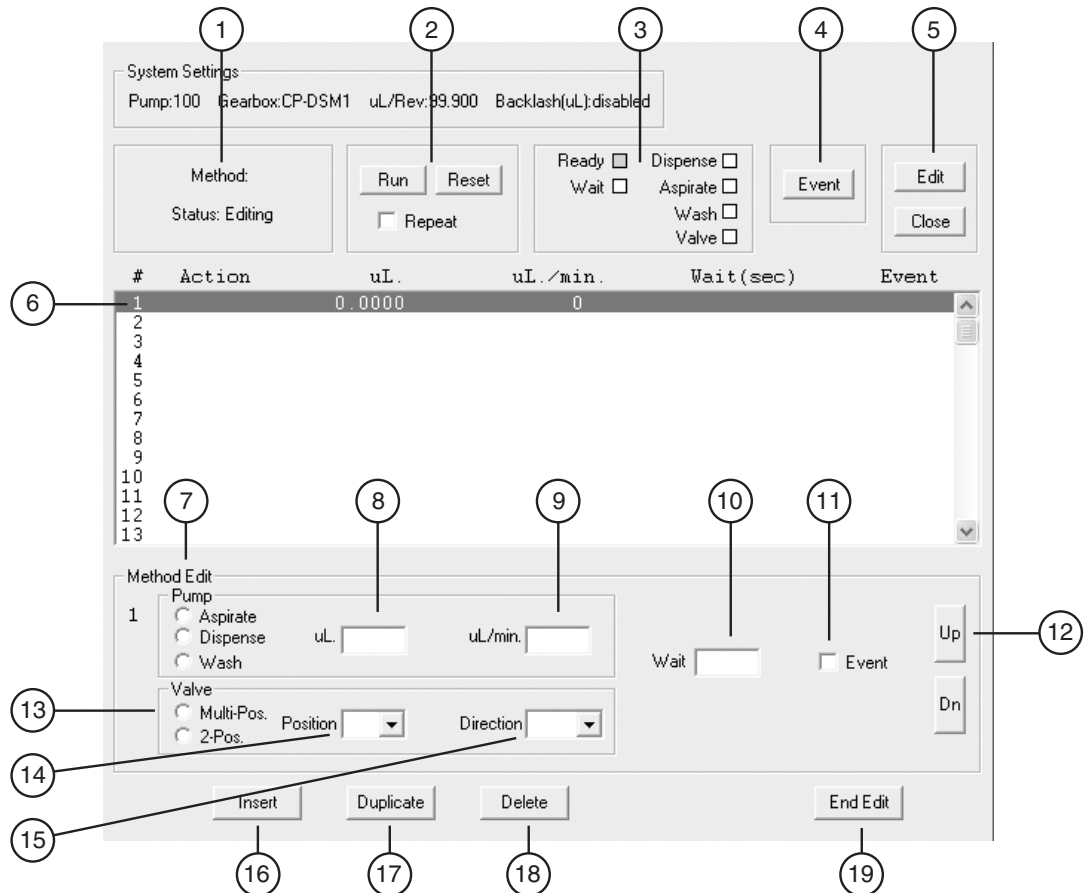

Figure 11: The Method screen
1. From the main menu, choose Method > New to open the screen in **Figure 11** on page 12.